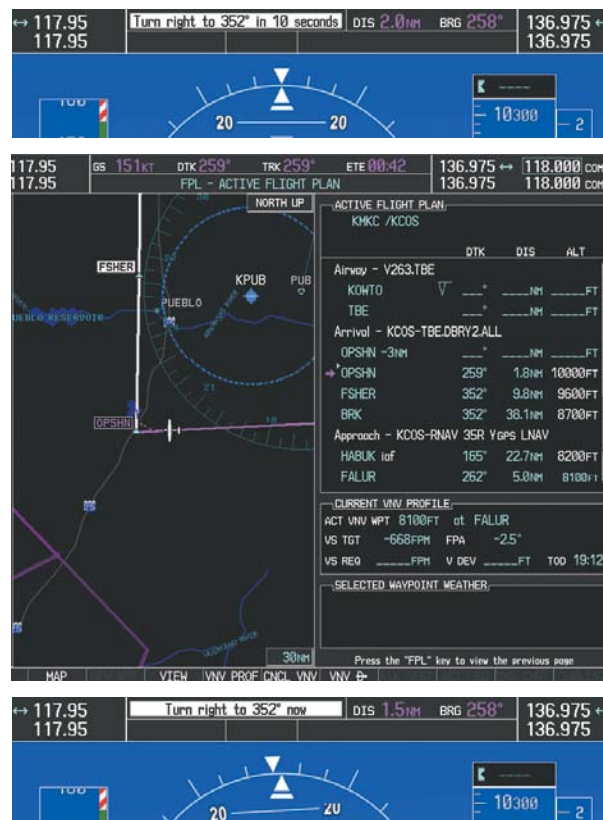

Figure 7-41 Turn to intercept OPSHN to FSHER Leg
- 18) The aircraft is approaching OPSHN. The upcoming turn and next heading are annunciated at the top left of the PFD as seen in Figure 7-41. Initiate the turn and maneuver the aircraft on a track through the turn radius to intercept the magenta line for the OPSHN to FSHER leg and center the CDI.